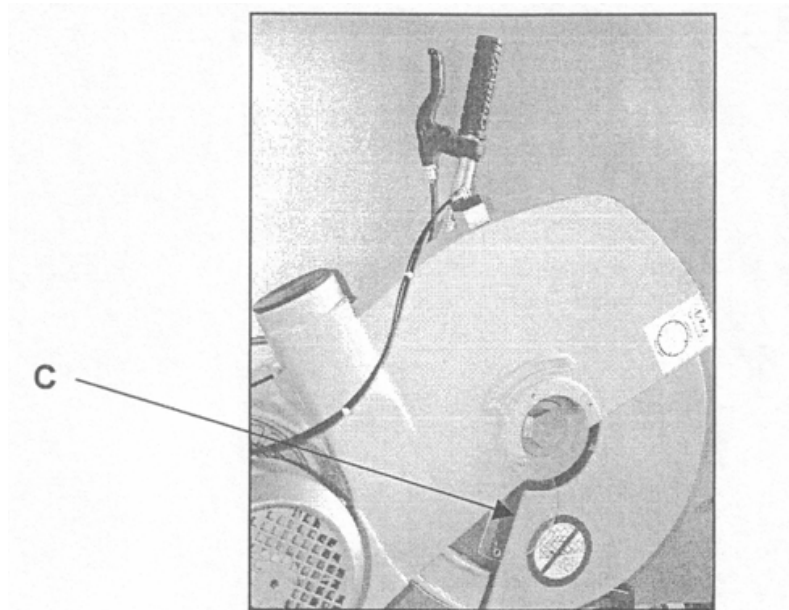

Fig. 11
3. Remove the yellow guard (Fig. 11 part C) and remove two of the three fixing screws.